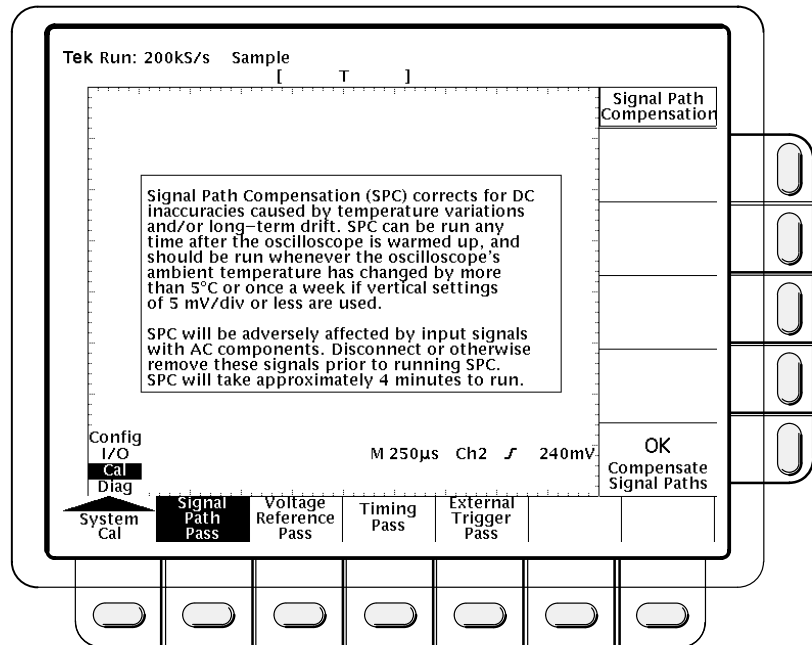

Figure 7-1: The System Calibration Menu
2. Press the leftmost main menu button until the pop-up menu shows the **Cal** selection. This calls up the system calibration menu, shown in Figure 7-1.